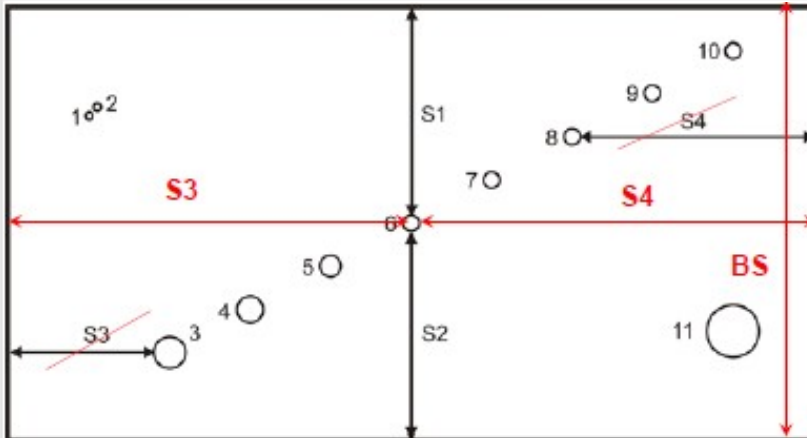

Fig. 3: Scheme of the block including defects and distances to be measured
From the measured distances (Fig. 3), the hole size is calculated after (2):
BS is the size of the block as shown in Fig. 3. Alternatively, it is the height of the block in Fig. 1